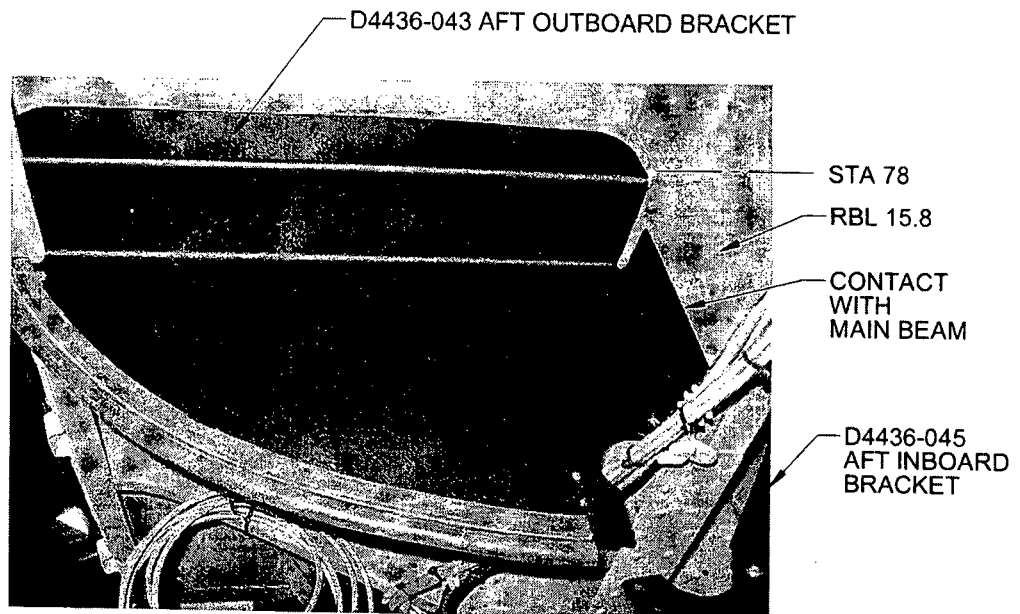

Figure 3. D4436-043 Aft Outboard Bracket Installation
- Position the D4436-043 Aft Outboard Bracket so the flange contacts the main beam as shown in Figure 3.